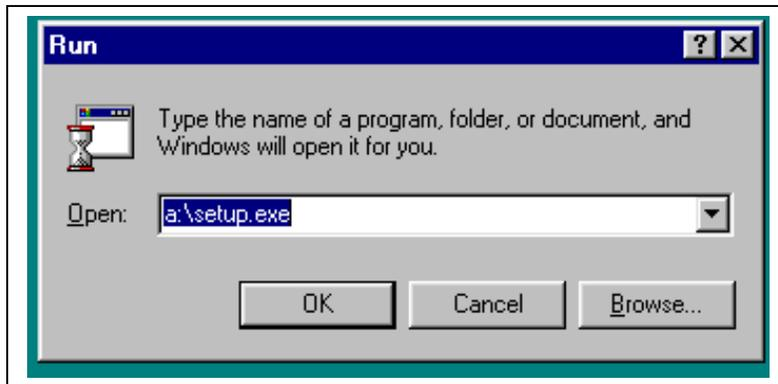

Figure 5.2. Select floppy drive
3. Enter the program setup file: a:\setup.exe. Click **OK**. (see Figure 5.2 below)